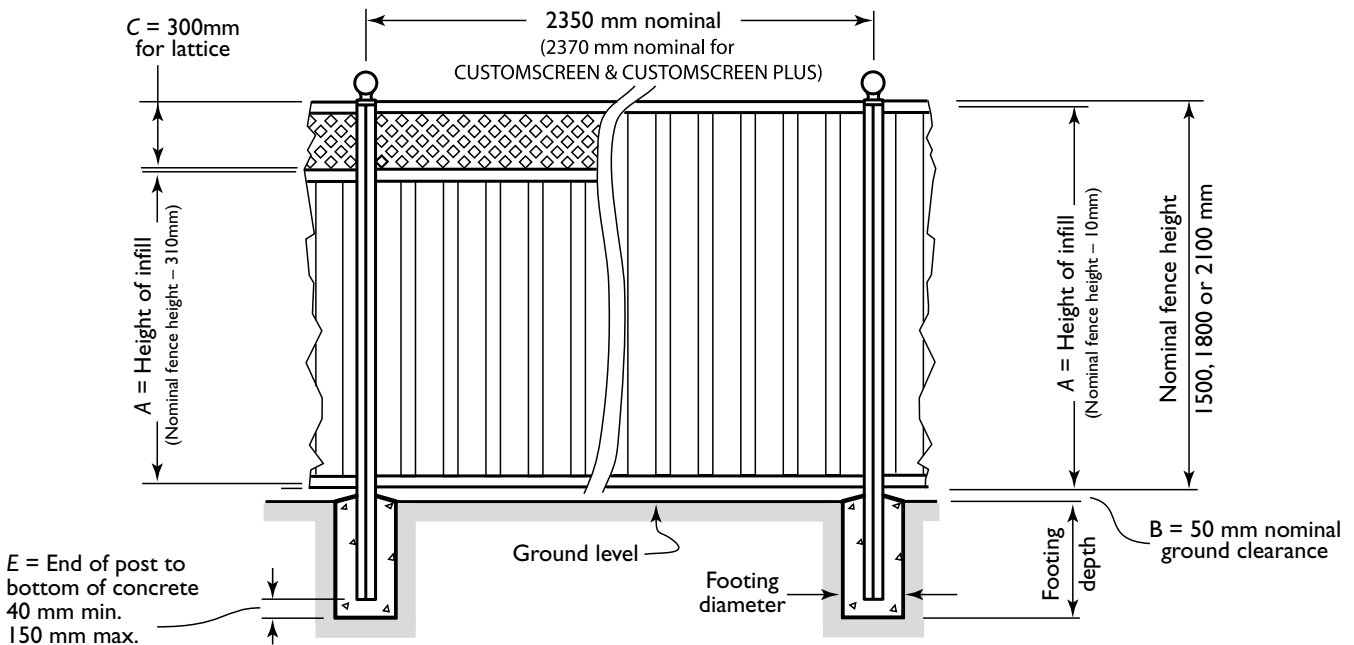

Figure 6
(Refer to Figure 6. For data on tapered ends, see Page 14).
A = Height of infill sheet (Figure 6)
B = 50 mm ground clearance (Figure 6)
C = If using lattice: 300 mm (Figure 6)
* Cut so that dimension E in Figure 6 is between 40 and 150 mm.